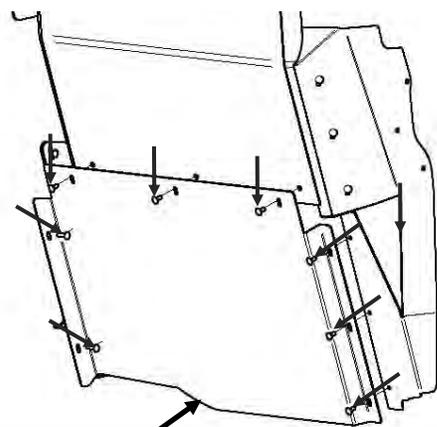

Figure 5
- A. Place the Pro-cell lower extension panel [3LEP572150] into the vehicle and slide the outside flange between the partition and the mounting plate (Fig 7a). Align the (3) holes at the top of the panel and the (3) holes along the outboard flange of the panel with their respective holes in the partition and the mounting plate (Fig 5).
- B. Loosely install a carriage bolt [3X36] and a whiz nut [3X16Z] into each of the (6) holes identified in the previous step. Install the fasteners such that the smooth head of the carriage bolt is facing towards the rear of the vehicle. The two holes on the inboard flange of the panel will remain empty for now.